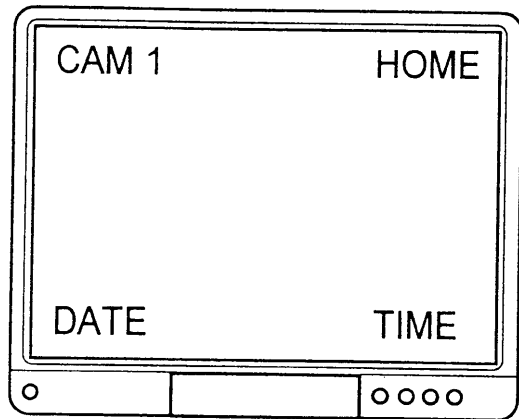

Figure 6. On Screen Display.
- Step 3. Ensure the TV is on the selected Camera channel. Press the 'Home' button on the keypad, the camera picture will now be on screen, after a few seconds the Control Unit will beep to confirm that the Camera Unit is fully operational, and the system time, date, Camera Unit number, and Control Unit mode will be displayed, see figure 6.